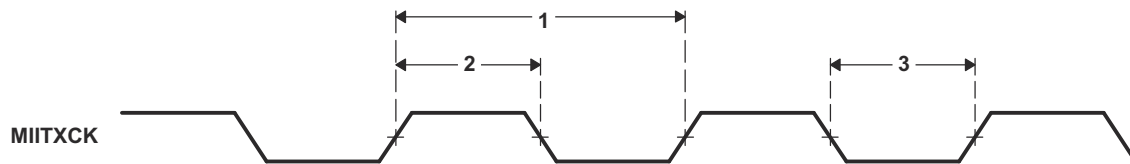

图 7-36. 100/10Mb/s MII Transmit Clock Timing
7.11.6.3.1 Timing Requirements for MIITXCK (see 图 7-36)